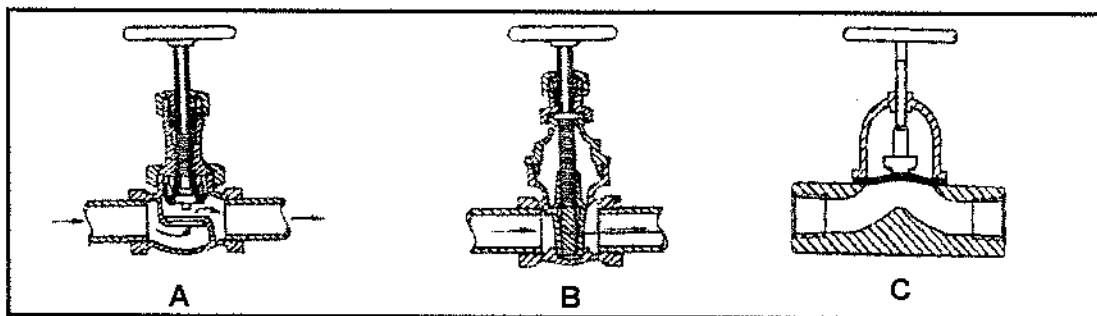

FIGURE 2
5.3 Identify the THREE different types of valves used in the sketches in FIGURE 2 below. Write only the answers next to the letter (A–C) in the ANSWER BOOK.